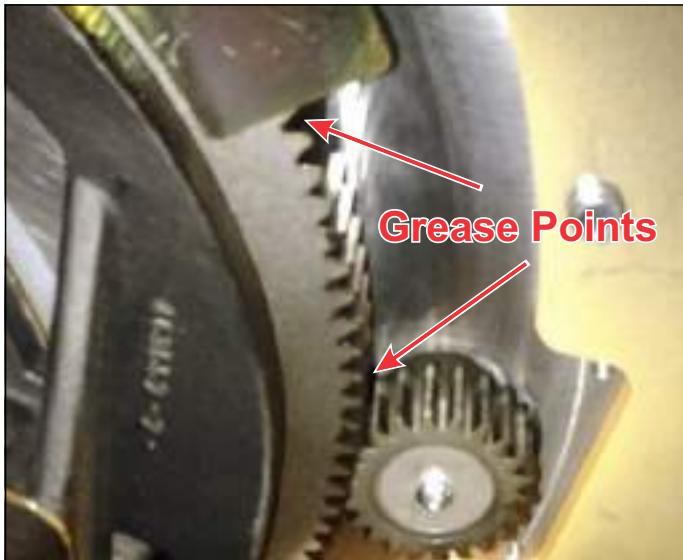

Figure 6-3: Steering Gears
5. Apply grease to the steering gear. Coat exposed gear face and as much of the pinion as possible. See **Figure 6-3.**